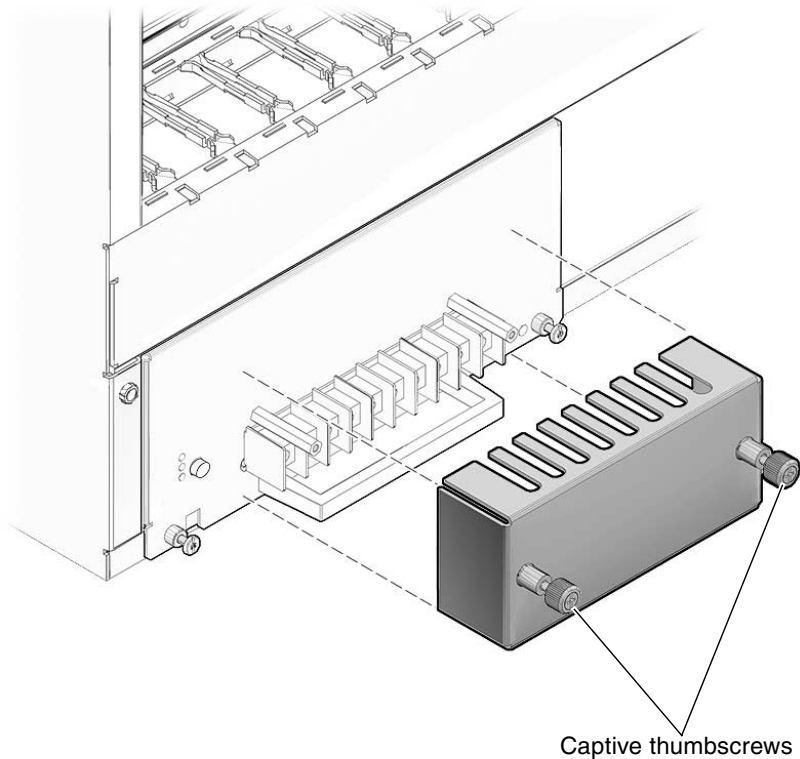

FIGURE 2-1 Location of the Captive Thumbscrews
2. Go to the rear of the shelf and remove the two captive thumbscrews that secure the terminal block cover over each power entry module (FIGURE 2-1).
2. Go to the rear of the shelf and remove the two captive thumbscrews that secure the terminal block cover over each power entry module, if necessary (FIGURE 2-1).